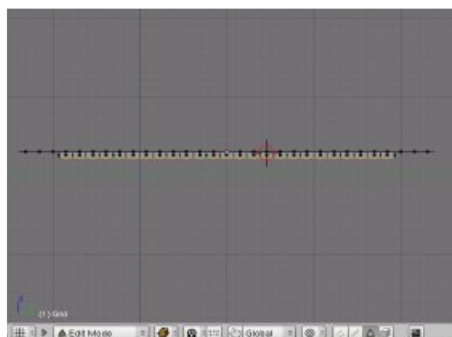

Fig 10: Extruding the tracks down.
4. In Side view, Extrude your track down a little. See fig 10.
5. Switch back to Object mode (Tab), then go into UV/Face Mode (F) and Vertex Paint (V)